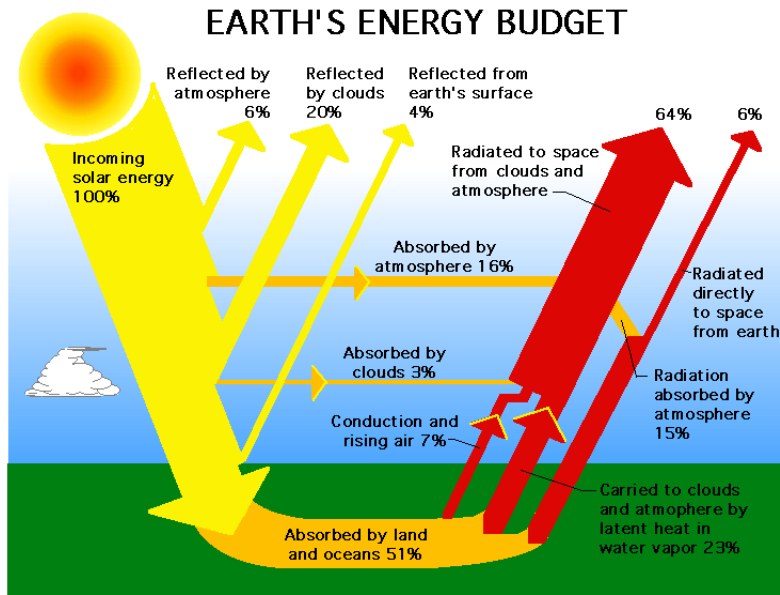

Figure 8
Figure 8 shows what happens to the Sun's radiation as it reaches the Earth.
- About 30% of the radiation is reflected back into Space by the particles in the atmosphere, clouds and the Earth's surface. [In Figure 8 we see it is (6 + 20 + 4) %, which adds up to 30 %.]